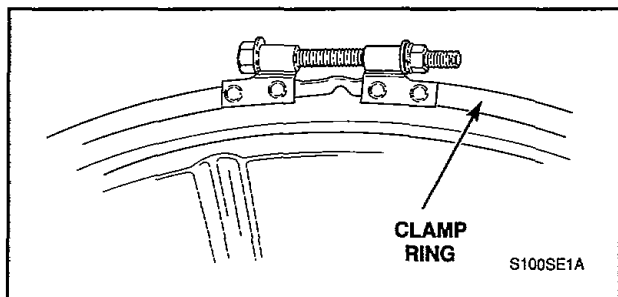

Figure 43
- n. Remove clamp screw, nut and washers holding clamp ring to rear tub head assembly, *Figure 43*.
- Remove clamp screw, nut and washers holding clamp ring to rear tub head assembly, *Figure 43*.